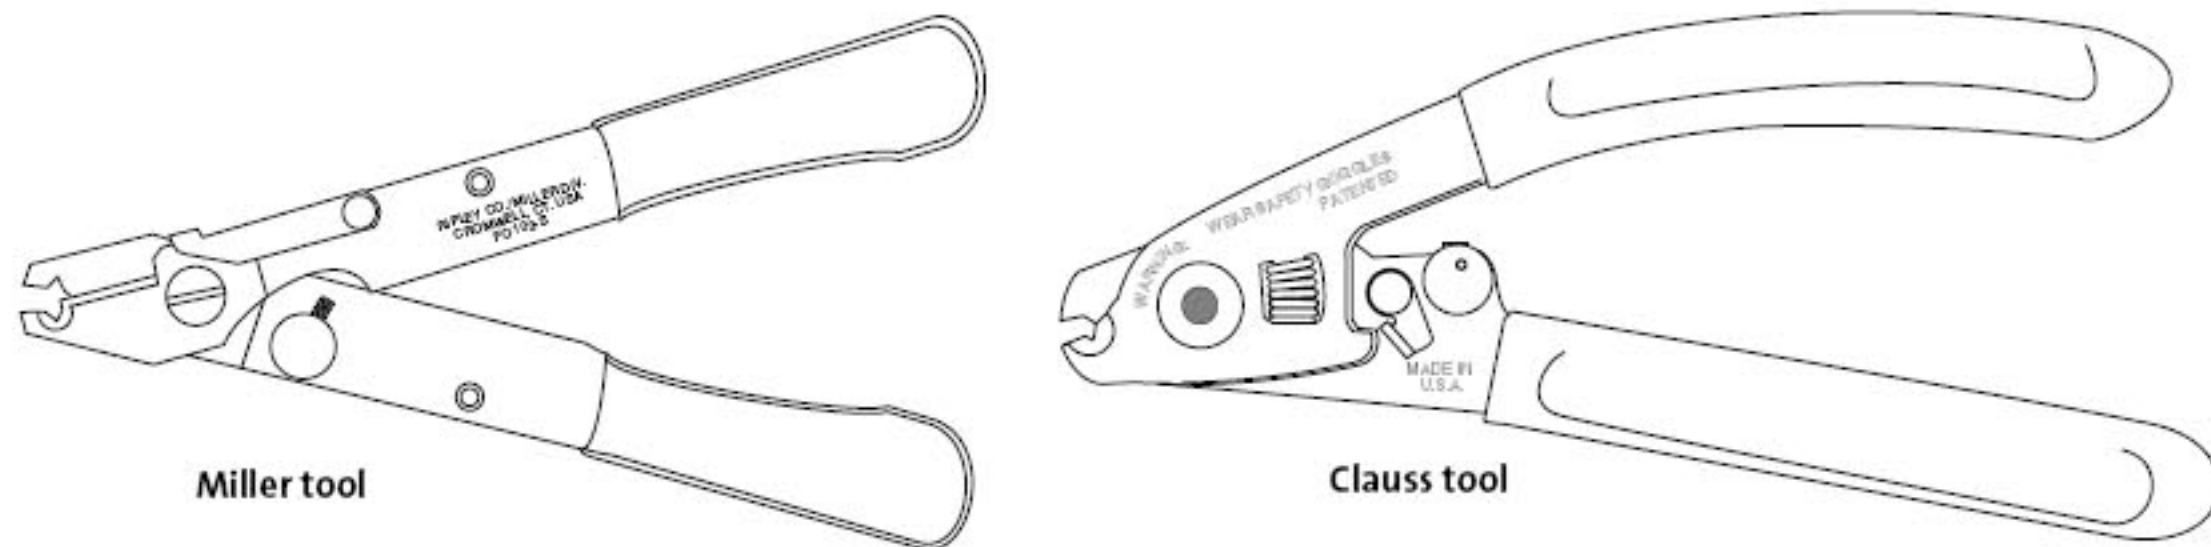

Figure 1
1.1 This procedure describes how to use a Corning Cable Systems fiber stripping tool, part number 3205004-01, the Miller® tool, and p/n 3205004-01-C, the Clauss® CFS-2 tool (Figure 1).